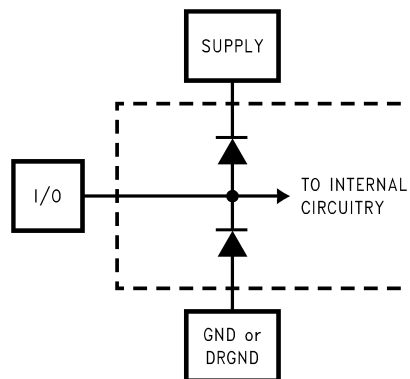

Figure 1.
- (1) The inputs are protected as shown below. Input voltage magnitudes above  $V_A$  or below GND will not damage this device, provided current is limited per (1). However, errors in the A/D conversion can occur if the input goes above  $V_A$  or below GND by more than 100 mV. As an example, if  $V_A$  is 4.75V, the full-scale input voltage must be  $\leq 4.85V$  to ensure accurate conversions. See Figure 1
- (2) To ensure accuracy, it is required that  $|V_A - V_D| \leq 100\text{ mV}$  and separate bypass capacitors are used at each power supply pin.
- (3) With the test condition for  $V_{REF} = +2.0V$  (4VP-P differential input), the 12-bit LSB is 977  $\mu V$ .
- (4) Typical figures are at  $T_A = T_J = 25^\circ\text{C}$ , and represent most likely parametric norms. Test limits are specified to TI's AOQL (Average Outgoing Quality Level).
- (5) Integral Non Linearity is defined as the deviation of the analog value, expressed in LSBs, from the straight line that passes through positive and negative full-scale.
- (6) Optimum performance will be obtained by keeping the reference input in the 1.8V to 2.2V range. The LM4051CIM3-ADJ (SOT-23 package) is recommended for this application.
- (2) To ensure accuracy, it is required that  $|V_A - V_D| \leq 100$  mV and separate bypass capacitors are used at each power supply pin.
- (4) Typical figures are at  $T_A = T_J = 25^\circ C$ , and represent most likely parametric norms. Test limits are specified to TI's AOQL (Average Outgoing Quality Level).
- (5) Typical figures are at  $T_A = T_J = 25^\circ C$ , and represent most likely parametric norms. Test limits are specified to TI's AOQL (Average Outgoing Quality Level).
- (6)  $I_{DR}$  is the current consumed by the switching of the output drivers and is primarily determined by load capacitance on the output pins, the supply voltage,  $V_{DR}$ , and the rate at which the outputs are switching (which is signal dependent).  $I_{DR} = V_{DR}(C_0 \times f_0 + C_1 \times f_1 + \dots + C_{11} \times f_{11})$  where  $V_{DR}$  is the output driver power supply voltage,  $C_n$  is total capacitance on the output pin, and  $f_n$  is the average frequency at which that pin is toggling.
- (7) Excludes  $I_{DR}$ . See previous note.
- (1) The inputs are protected as shown below. Input voltage magnitudes above  $V_A$  or below GND will not damage this device, provided current is limited per 0. However, errors in the A/D conversion can occur if the input goes above  $V_A$  or below GND by more than 100 mV. As an example, if  $V_A$  is 4.75V, the full-scale input voltage must be  $\leq 4.85V$  to ensure accurate conversions. See Figure 1
- (3) With the test condition for  $V_{REF} = +2.0V$  (4VP-P differential input), the 12-bit LSB is 977  $\mu\text{V}$ .
- (4) Timing specifications are tested at TTL logic levels,  $V_{IL} = 0.4V$  for a falling edge and  $V_{IH} = 2.4V$  for a rising edge.
- (5) Typical figures are at  $T_A = T_J = 25^\circ\text{C}$ , and represent most likely parametric norms. Test limits are specified to TI's AOQL (Average Outgoing Quality Level).